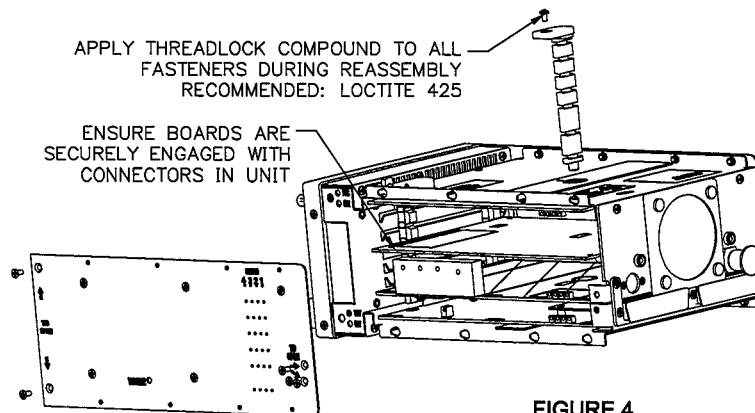

FIGURE 4
- INSERT THE PCB LOCKING BAR AS SHOWN IN FIGURE 4 AND TURN IT 90° CLOCKWISE.
- REINSTALL THE SCREW IN THE TOP OF THE PCB LOCKING BAR AS SHOWN IN FIGURE 4. APPLY A SMALL AMOUNT OF THREADLOCK COMPOUND TO THE SCREW BEFORE SECURING IT.